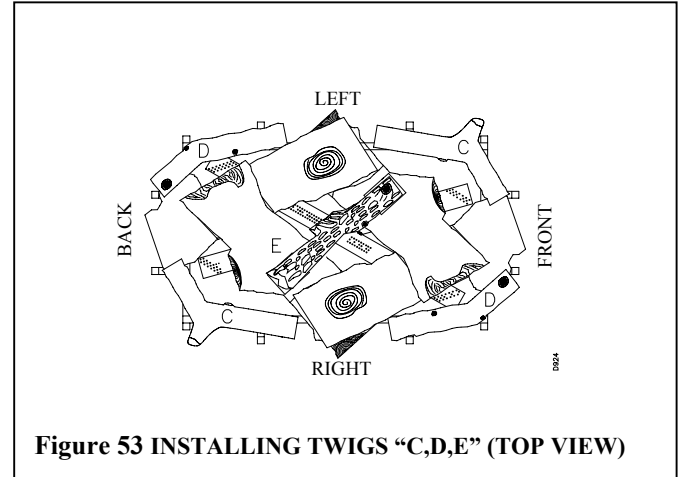

Figure 53 INSTALLING TWIGS "C,D,E" (TOP VIEW)
8. Take twigs "C" (shaped like a "Y") and place them as shown in figure 53.
9. Take twigs "D" (bent twig) and place them as shown in figure 53.
10. Place twig "E" across the top of Logs "B" in the remaining notches as shown in figure 53.